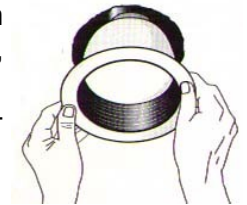

Figure 2
1. Squeeze the 2 ends of each spring towards trim wall and engage the two springs into the plaster frame opening in the housing. Slide trim up and fully seat against ceiling surface. (Figure 2). For lensed wall wash products (LW), install *lower trim assembly* by aligning shallow cut of reflector towards LED engine, and away from J-box.